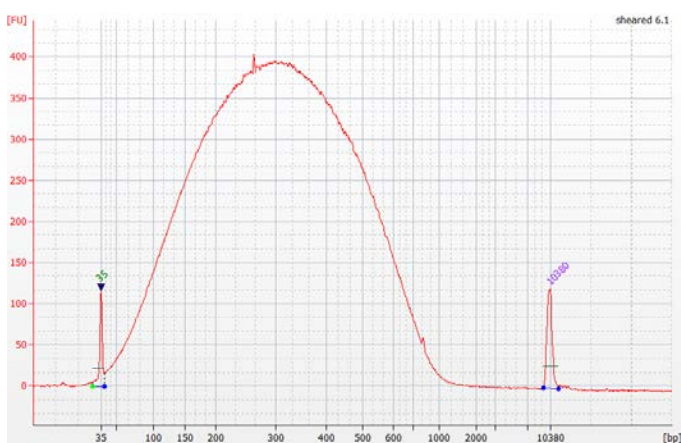

Figure 1: Typical Bioanalyzer trace for gDNA sheared to 300 bp using a Covaris Focused-ultrasonicator.
1. If enough sheared/fragmented gDNA is available, analyze 1 µL on a Bioanalyzer High Sensitivity Chip to determine size distribution. Be aware that very low DNA amounts are not detectable on a High Sensitivity Chip. See Figures 1 and 2 for typical Bioanalyzer traces.